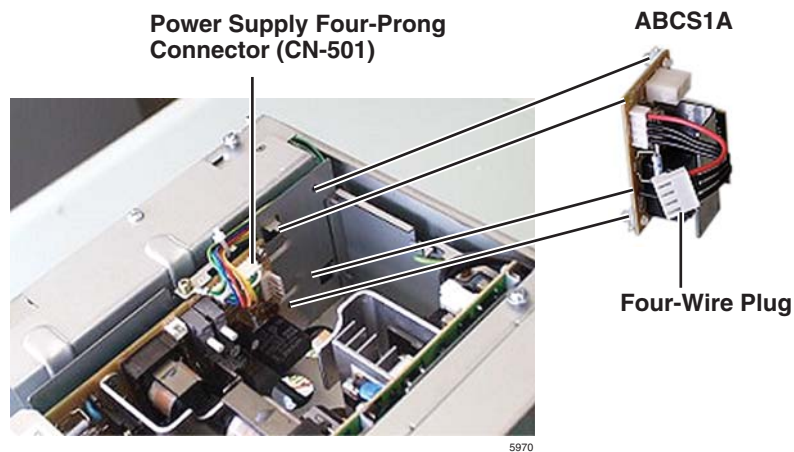

**Figure 3-7 Base and Expansion Cabinet Interior**
11. Finish by securing the Expansion Cabinet to the Base cabinet with the two screws in front of the cabinets where they join together. The expansion cabinet left-side flange fits over the Base cabinet right side flange (see Figure 3-7).